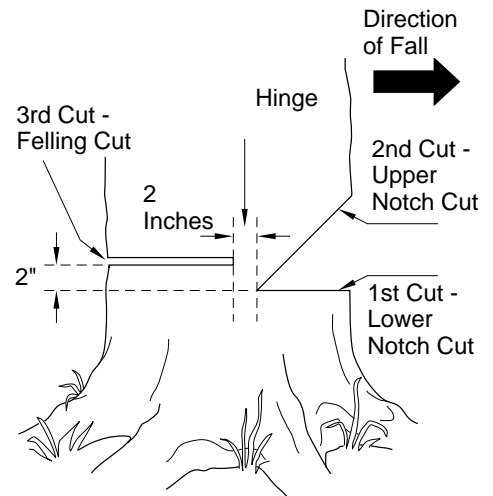

Figure 12 - Felling A Tree
A properly placed felling notch will determine direction tree will fall. Place felling notch on side of tree in direction you want tree to fall (see Figure 12). Follow directions below to create a felling notch.
1. Make lower notch cut as close to ground as possible. Hold saw so guide bar is horizontal. Cut 1/3 the diameter of tree trunk (see Figure 12). *Note:* Always make this horizontal lower notch cut first. If you make this cut second, tree can pinch chain or guide bar.
Example: If lower notch cut is eight inches deep, start upper notch cut eight inches above it. Cut downward at 45° angle. The upper notch cut should meet end of lower notch cut (see Figure 12).
1. Make felling cut two inches higher than lower notch cut and on opposite side of tree (see Figure 12). Keep felling cut parallel to lower notch cut.
Do not cut all the way through tree. Leave about two inches of tree diameter uncut directly behind felling notch (see Figure 12). This uncut portion acts as a hinge. The hinge helps keep tree from twisting and falling in wrong direction.